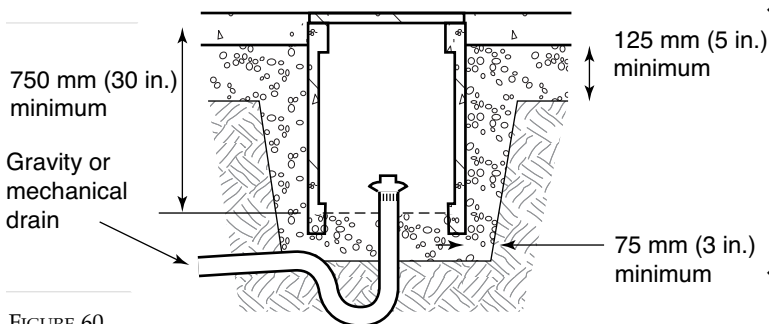

FIGURE 60
- ◆ Build the sump pit at least 750 mm (30 in.) deep, with an area of at least 0.25 m² (2.8 sq. ft.). Provide mechanical or gravity drainage from the sump to a municipal sewer or drainage ditch. Install the drain pipe so that the invert is at least 150 mm (6 in.) below the bottom of the excavation (see Figure 60).